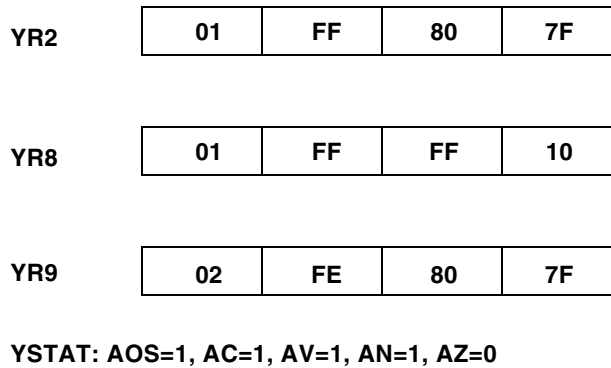

Figure 8-1. Quad Byte, Single Register, Signed Saturating Addition in Compute Block Y
YBR9 = R2 + R8 (S);; *see Figure 8-1*